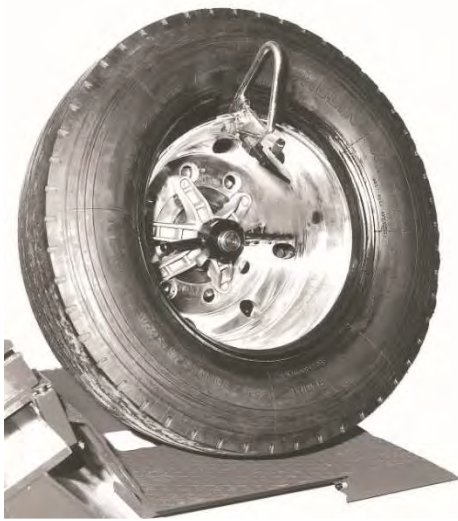

Fig.31
B. Move the chuck arm all the way down. Roll the tire on the footboard and hang it onto the mounting clamp (Fig.31).